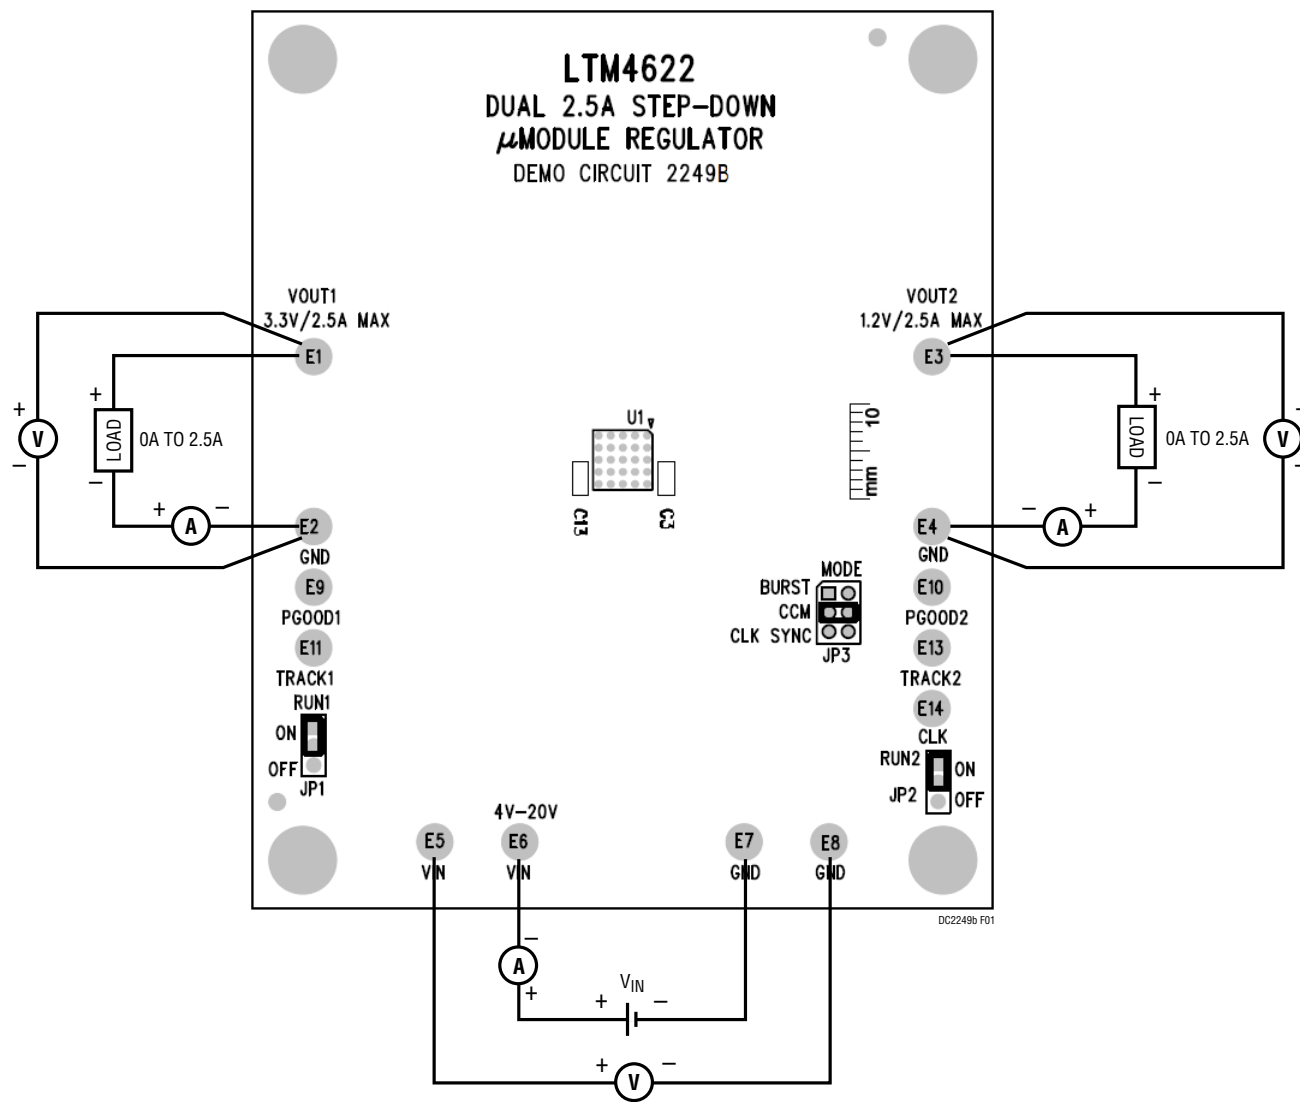

Figure 1. Test Setup
Demonstration circuit 2249B is an easy way to evaluate the performance of the LTM4622. Please refer to Figure 1 for test setup connections and follow the procedure below.
3. With power off, connect the loads, input voltage supply and meters as shown in Figure 1.